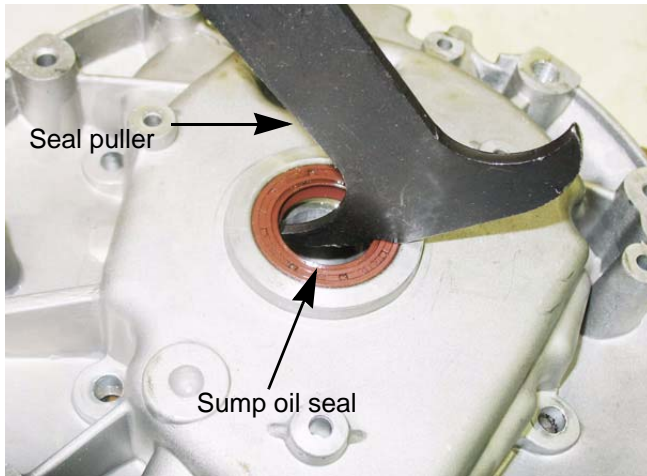

Figure 10.19
1. Remove the sump and cylinder block oil seals using a seal puller. See Figure 10.19.